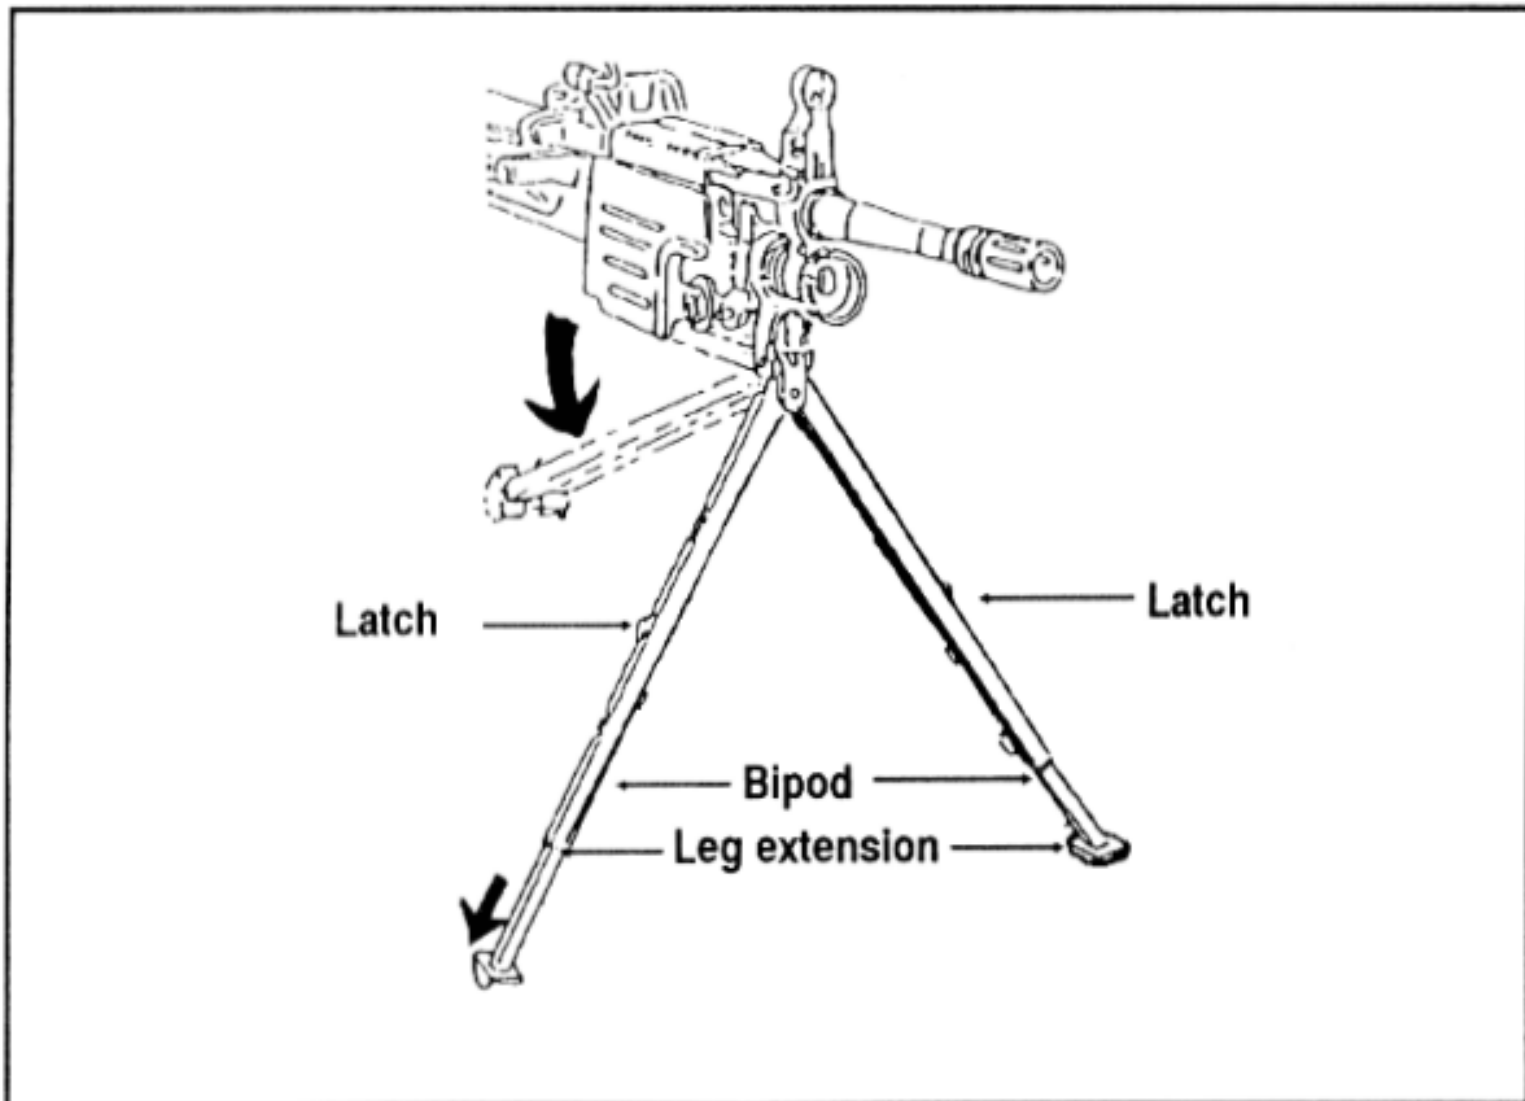

Figure 3-5. Lowering the bipod.
a. To lower the bipod legs, hold the legs together and pull down and away from the handguard. Release the legs so that they lock in the vertical position. To extend the bipod legs, grasp the foot of each leg and pull down. (Figure 3-5).
Figure 3-5. Lowering the bipod.